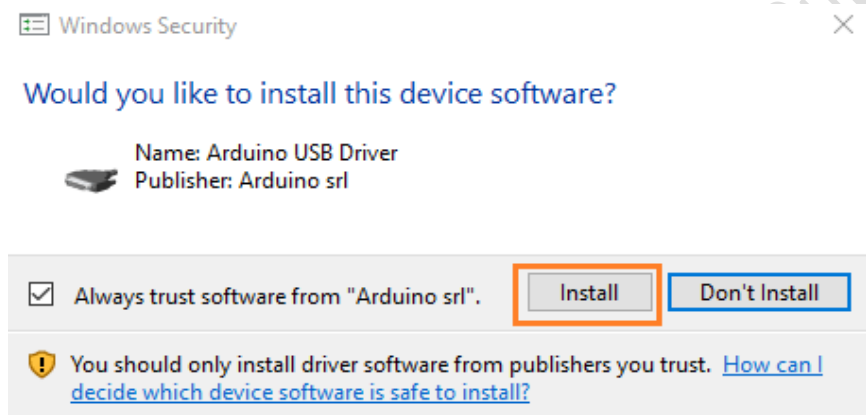

Fig.2.11: Driver Installation Window
5. Again, click on the 'Install' button (Fig.2.11).